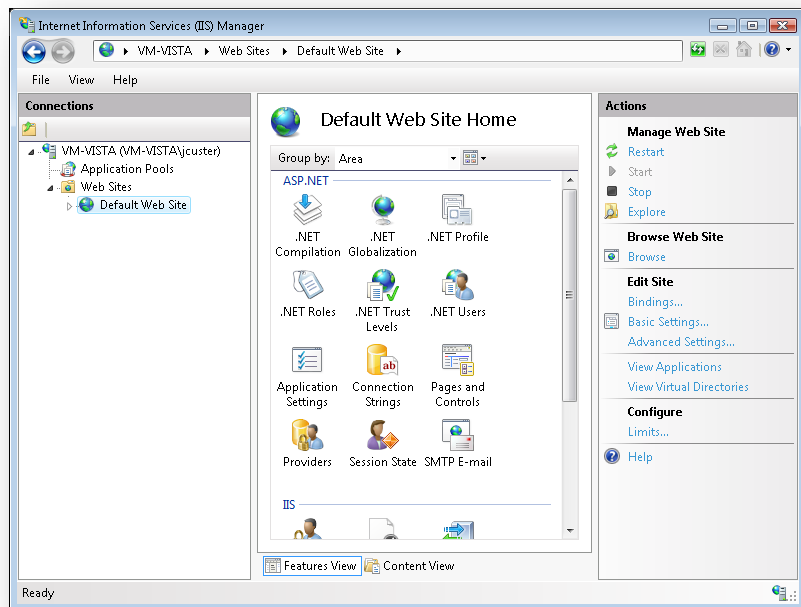

Figure 75 – Internet Information Services (IIS) Manager
7. Type “lmi_area_monitor” (lower-case, without the quotation marks) into the “Database name” text box. See Figure 75.